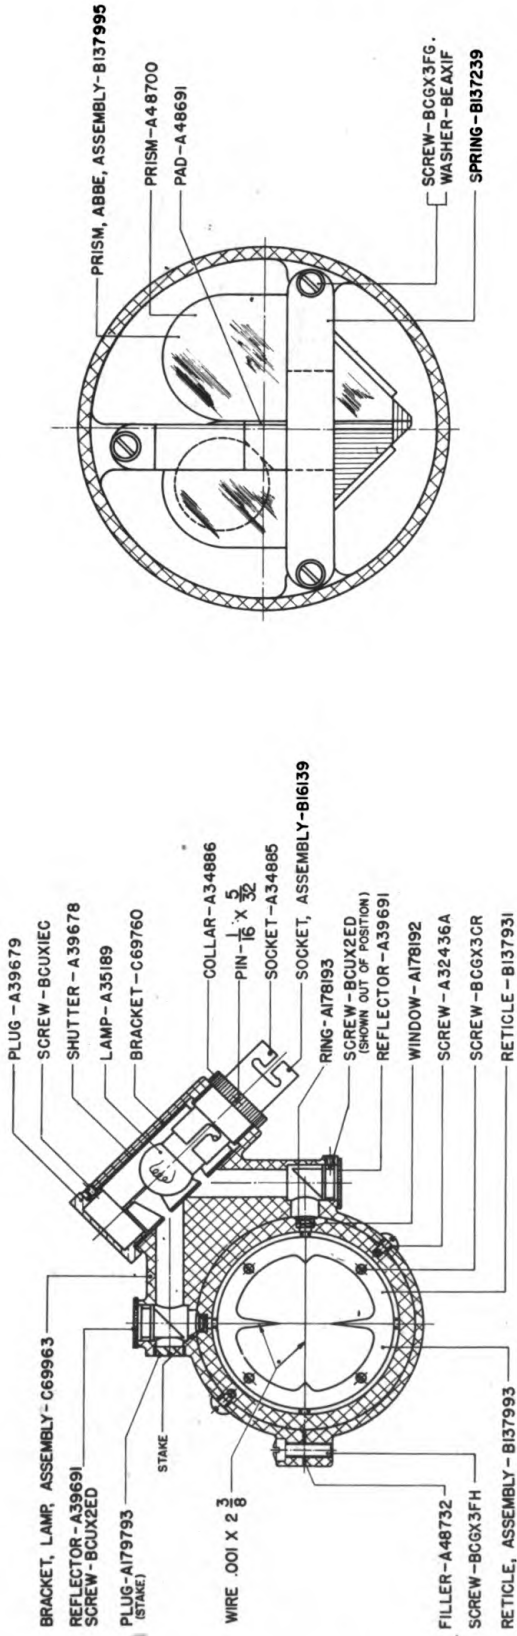

Figure 7—Lamp Bracket Assembly—Section Through B-B and C-C
g. **Electrical Wiring.** A terminal block assembly B174794, in a well in the lower portion of the deflection worm housing (fig. 6), is the connection between the outside power source and the socket A178646 for the extension cable and the two toggle switches. A flexible tube A179435 passing through a housing assembly in the lower front face of the deflection worm housing at the right-hand side carries the wires from outside power source to terminal block. The socket for the extension cable and the two toggle switches is assembled in the deflection worm housing cover A179432 (fig. 6). One switch operates the built-in electric lamps on top of the housing and the other switch operates the electric lamp assembled in the telescope lamp bracket (fig. 5, section D-D and fig. 7, section B-B).
(1) The eyepiece adapter assembly consists of the eyepiece adapter C69961, to which is assembled the eyepiece assembly C69964, focusing nut B138053, reticle assembly B137993, lamp bracket assembly C69963, and ray filter assembly B137994, (fig. 7, section B-B and fig. 10).
(2) The eyepiece assembly is moved inward or outward by turning the focusing nut. The focusing nut carries a diopter scale B138047 which registers the particular eye correction for an individual observer. The diopter scale is graduated from 0 to plus 3 and minus 3 diopters. At 0 diopter, the telescope is in sharp focus for an observer with normal vision. The observer can prefocus the telescope by using the diopter scale if he knows his own eye correction.
(3) The reticle pattern as seen through the telescope eyepiece consists of intersecting horizontal and vertical wires mounted on a clover leaf reticle B137931 (fig. 7, section B-B). The reticle is illuminated through windows in the top and right side of the eyepiece adapter by a lamp in the lamp bracket assembly.
(4) The lamp bracket assembly C69963 consists of two reflectors A39691, the lamp A35189, and an adjustable shutter A39678 assembled in the bracket C69760. The shutter controls the illumination and is operated by turning plug A39679.
(1) The telescope body D29343 contains the abbe prism assembly B137995 and the objective assembly B137992 (fig. 7, section C-C and fig. 10).